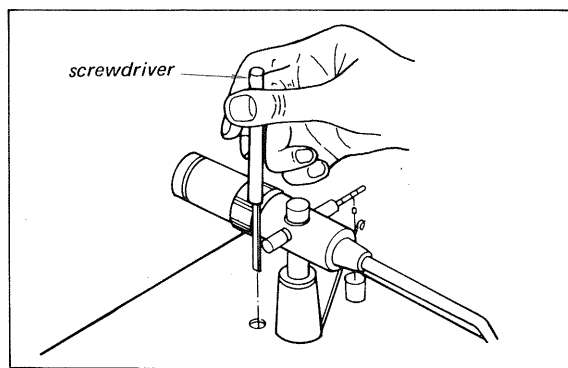

Fig. 3-8. Stylus set-down adjustment
1. The correct position for stylus set-down is 1.5 mm ($1/16$ inch) in from the edge of the record. The position is adjusted by turning the set-down adjustment screw through the opening located near the tone-arm base as shown in Fig. 3-8. This screw appears only when the tone-arm is placed on its rest. The adjustment is performed with any records on the turntable.